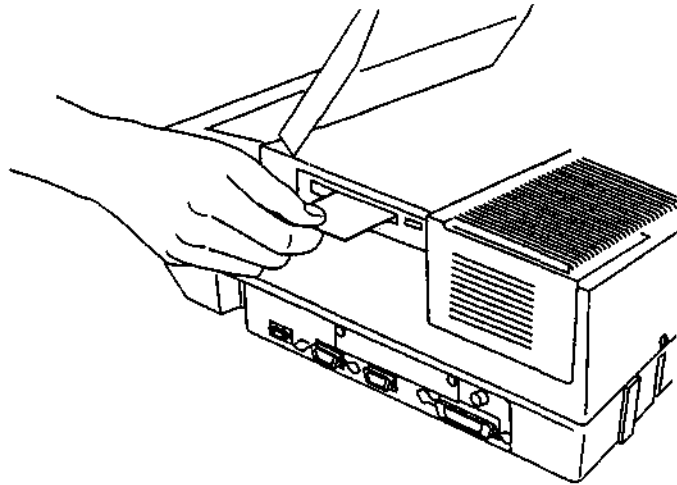

Fig 5.6.1 Inserting the IC card
- (1) Firmly insert the Program Pack into the IC card slot of the right side of the spectrophotometer.(shown in Fig 5.6.1) The Program Pack can be inserted/removed whenever the power switch of the spectrophotometer is ON or OFF.
- (1) Firmly insert the Data Pack into the IC card slot of the right side of the spectrophotometer. (shown in Fig 5.6.1) The Data Pack can be inserted/removed whenever the power switch of the spectrophotometer is ON or OFF. The stored parameters and data in the Data Pack are kept after removing from the spectrophotometer, since the Data Pack has a own battery inside.